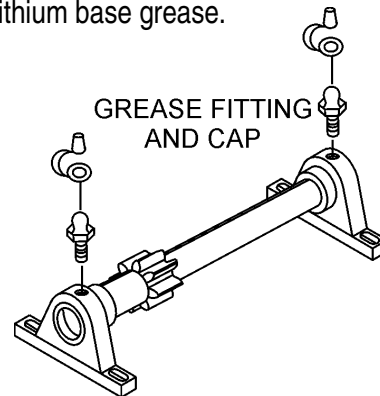

Figure 28. Grease Fittings (Countershaft)
There is 1 set of countershaft bearings (Figure 28) that will require lubrication. Lubricate the grease fitting for each countershaft bearing **every 40 hours of operation** using any grade lithium base grease.
- Fill the wheel hub (Figure 28) with grease to the inside diameter of the outer races and also fill the hub grease cap. Reassemble the hub and mount the wheel. Then tighten the adjusting nut, at the same time turn the wheel in both directions, until there is a slight bind to be sure all the bearing surfaces are in contact.